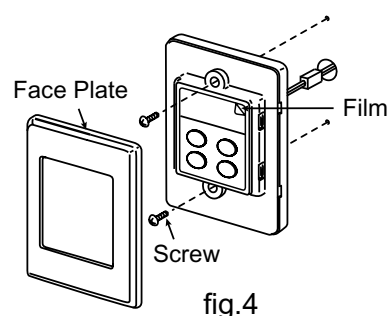

fig.4
6. Fix the controller to the wall and fasten with the phillips head screws supplied as shown in fig. 4.
7. Remove the protective plastic film from the controller face as shown in fig. 4.